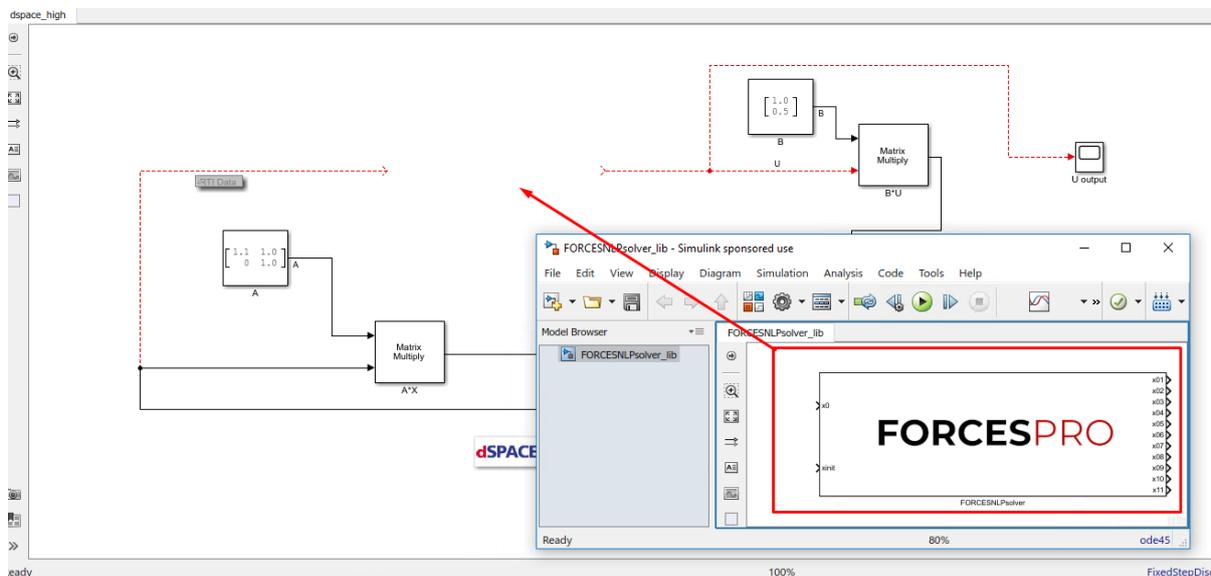

Figure 13.6: Copy-paste and connect the FORCESPRO block.
- (Figure 13.6) Copy-paste the FORCESPRO Simulink block into your simulation model and connect its inputs and outputs appropriately.